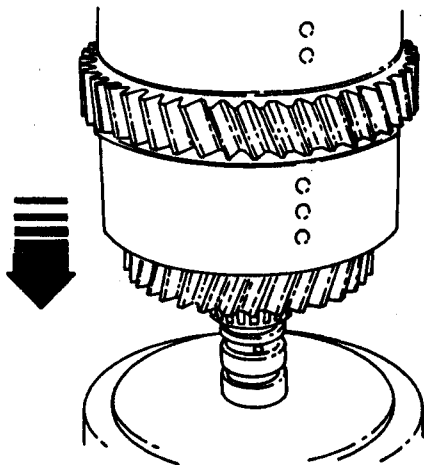

Figure 33.
2. Loosen the high clutch end bearing by tapping the assembly on a piece of aluminum as shown in Figure 33.